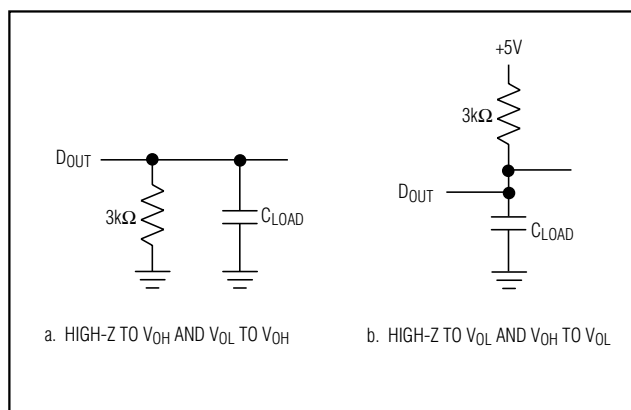

Figure 2. Load Circuits for Enable Time
**Note 12:**  $t_{DO}$  and  $t_{DO1}$  are measured with the load circuits of Figure 2 and defined as the time required for an output to cross 0.8V or 2.4V.